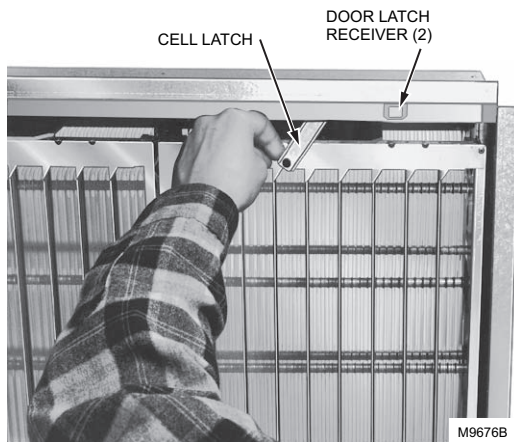

Fig. 16. Turn cell latch to lock in place.
2. Swing the cell(s) into the frame and turn the cell latches to lock the cell(s) in place. See Fig. 16.
The louvered and egg crate door/grilles are interchangeable on the F52F (see Parts List on page 18 for part numbers). To change from a louvered to an egg crate door/grille, turn the quarter-turn fasteners to the open position. Open the door/grille and remove the two hex nuts that fasten the door/grille to the air cleaner cabinet. Install the two tinnerman clips that are supplied with the egg crate door/grille on the door latch receivers (Fig. 16). Mount the new door/grille on the air cleaner cabinet with the two hex nuts previously removed. Close the door/grille and turn the thumb screws to engage the mating screws in the tinnerman clips.